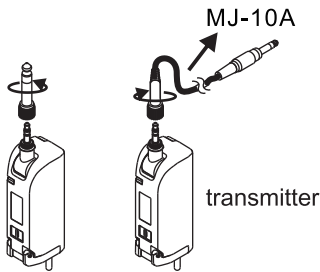

Fig. 11-1 Fig. 11-2
- (A) Remove the 6.3 Ø input phone plug adapter from MT-24, Fig. 11-1.